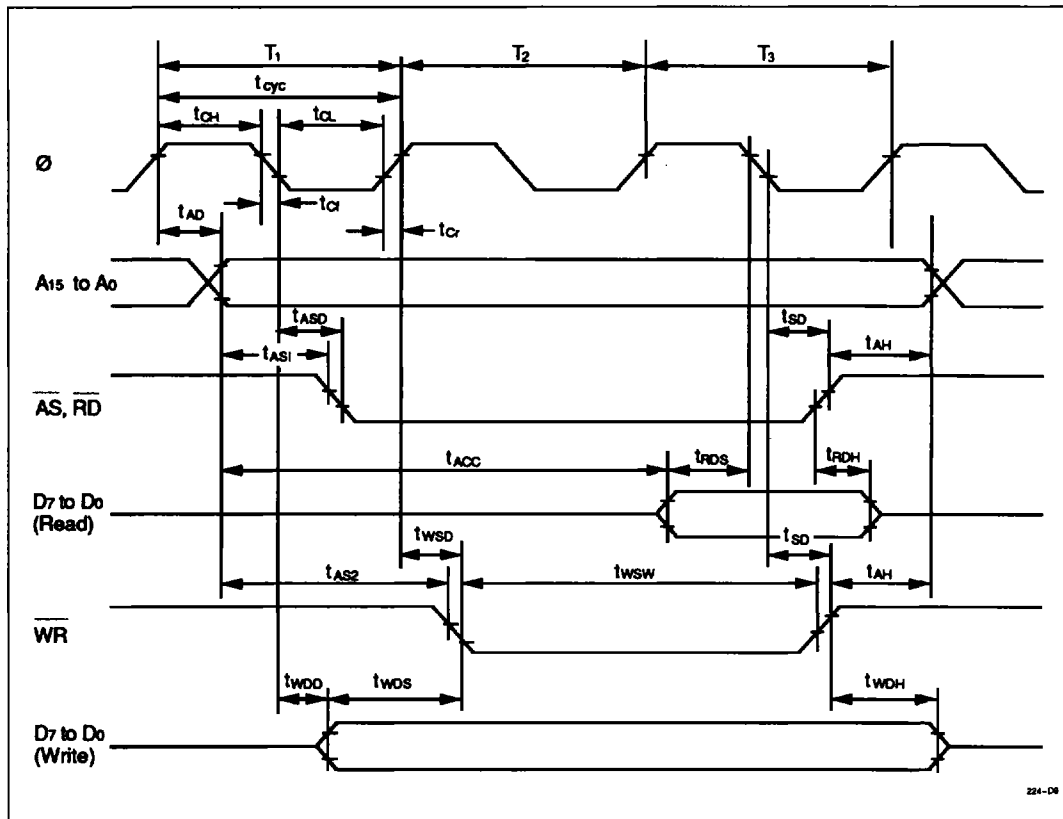

Figure 14-4. Basic Bus Cycle (without Wait States) in Expanded Modes
14.3.1 Bus Timing	Figures 14-4 to 14-5